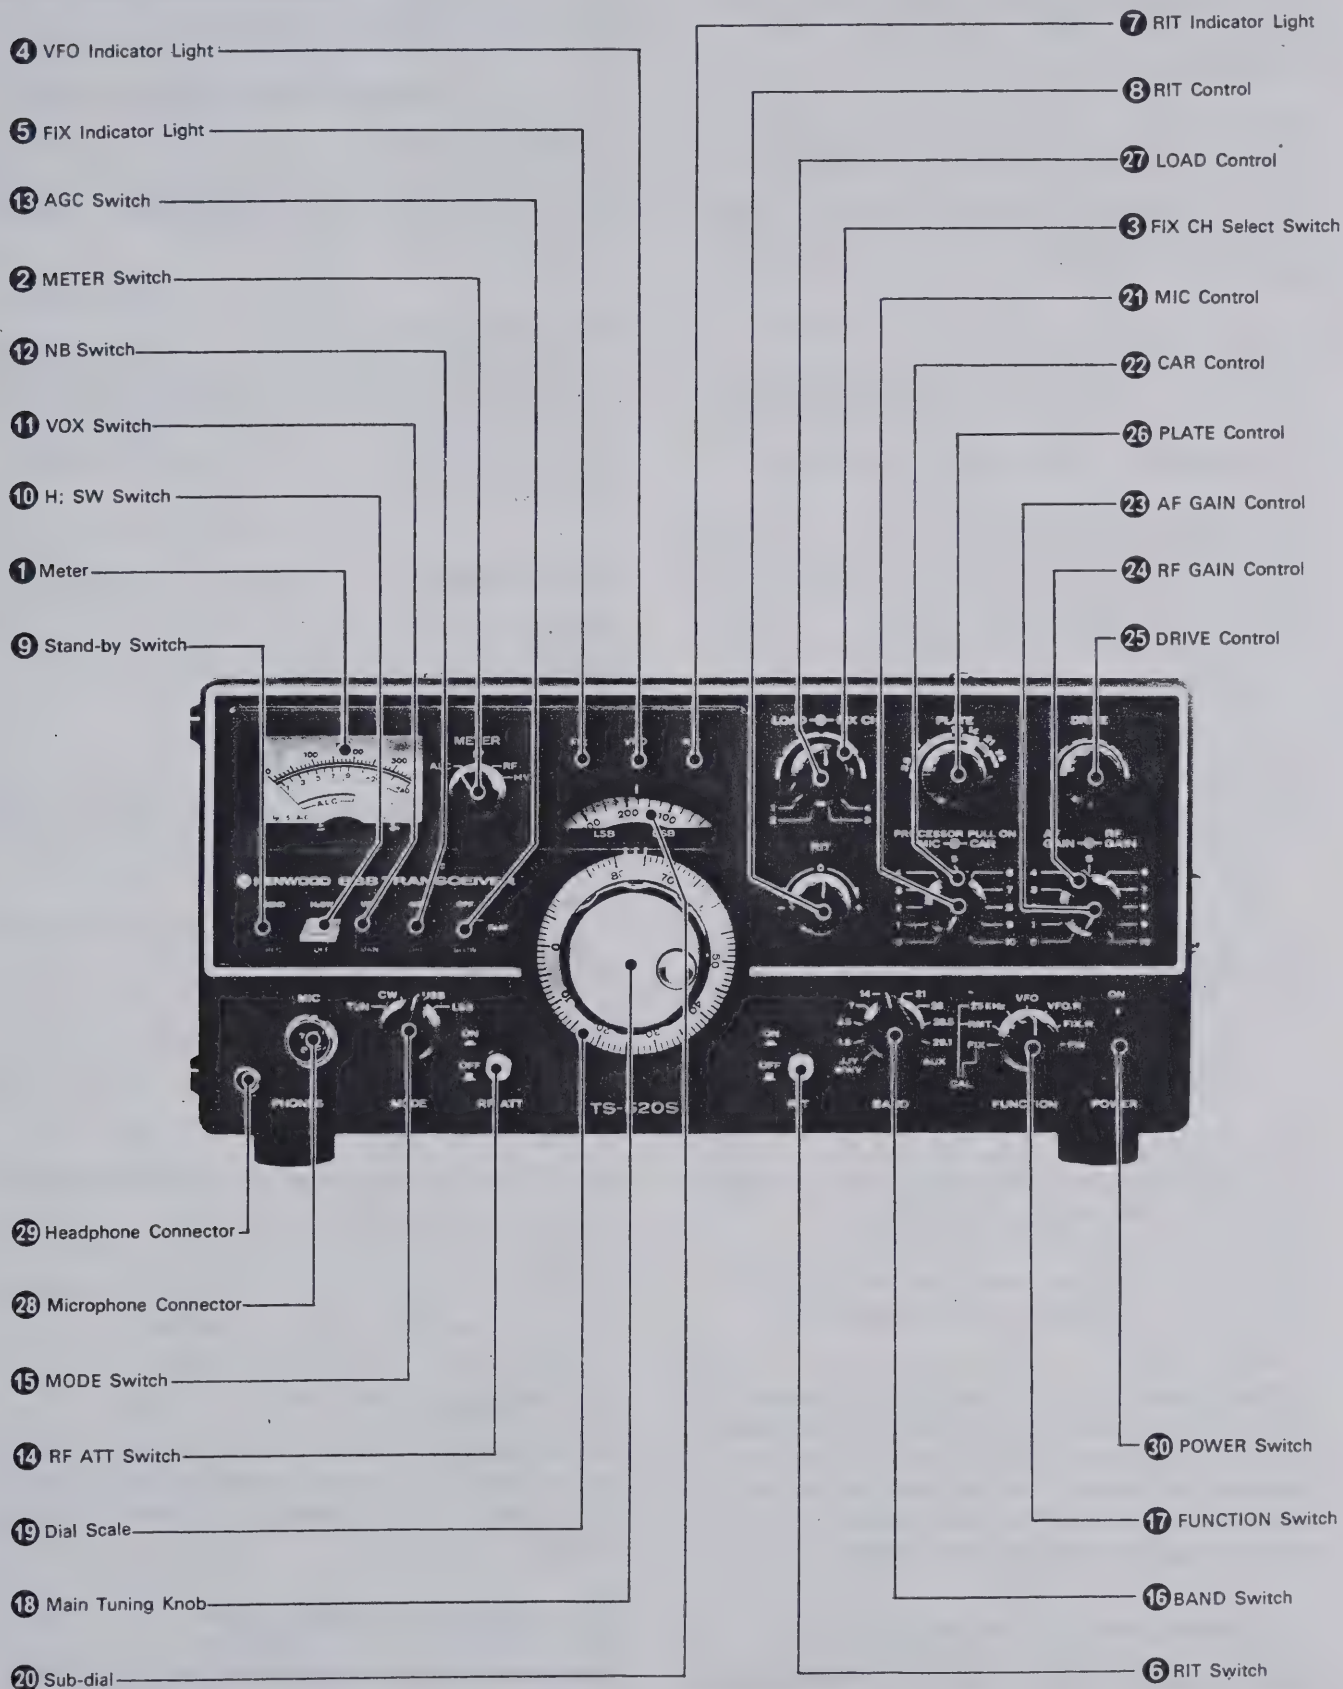

Fig. 5 Front Panel Controls
3.1 FRONT PANEL CONTROLS (See Figure 5)
■ METER (① on Figure 5)
■ METER SWITCH (② on Figure 5)
(③ on Figure 5)
■ VFO INDICATOR LIGHT (④ on Figure 5)
■ FIX (FIXED CHANNEL OPERATION) INDICATOR LIGHT (⑤ on Figure 5)
■ RIT SWITCH (⑥ on Figure 5)
■ RIT INDICATOR (⑦ on Figure 5)
■ RIT CONTROL (⑧ on Figure 5)
■ STAND-BY SWITCH (⑨ on Figure 5)
■ H. SW (Heater) SWITCH (⑩ on Figure 5)
■ VOX SWITCH (⑪ on Figure 5)
■ NB SWITCH (12 on Figure 5)
■ AGC SWITCH (13 on Figure 5)
■ RF ATT SWITCH (14 on Figure 5)
■ MODE SWITCH (15 on Figure 5)
■ BAND SWITCH (16 on Figure 5)
■ FUNCTION SWITCH (17 on Figure 5)
■ MAIN TUNING KNOB (19 on Figure 5)
■ DIAL SCALE (19 on Figure 5)
■ SUB-DIAL (20 on Figure 5)
■ MIC CONTROL (PROCESSOR PULL ON) (21 on Figure 5)
■ CAR CONTROL (22 on Figure 5)
■ AF GAIN CONTROL (23 on Figure 5)
■ RF GAIN CONTROL (24 on Figure 5)
■ DRIVE CONTROL (25 on Figure 5)
■ PLATE CONTROL (26 on Figure 5)
■ LOAD CONTROL (27 on Figure 5)
■ MIC CONNECTOR (28 on Figure 5)
■ PHONES JACK (29 on Figure 5)